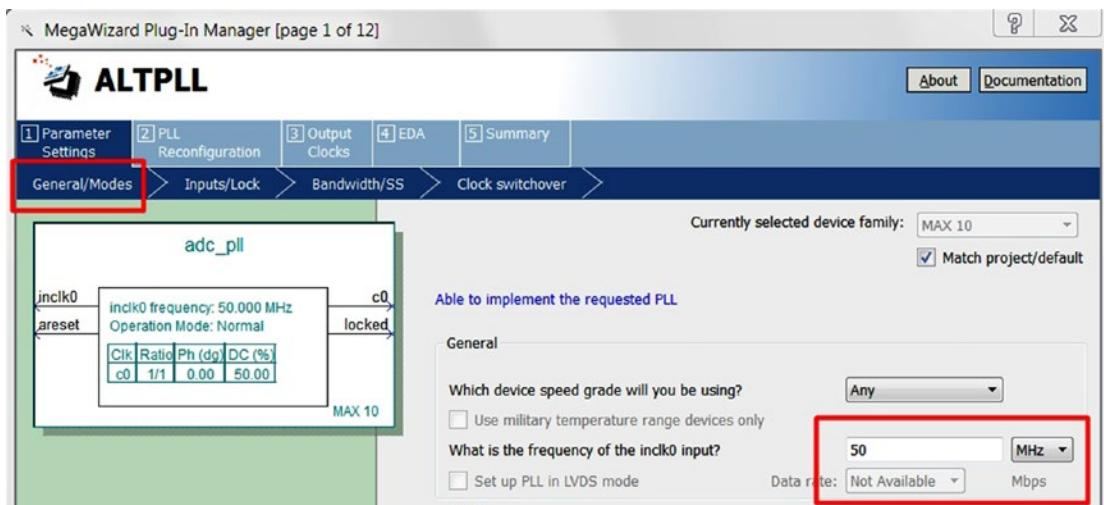
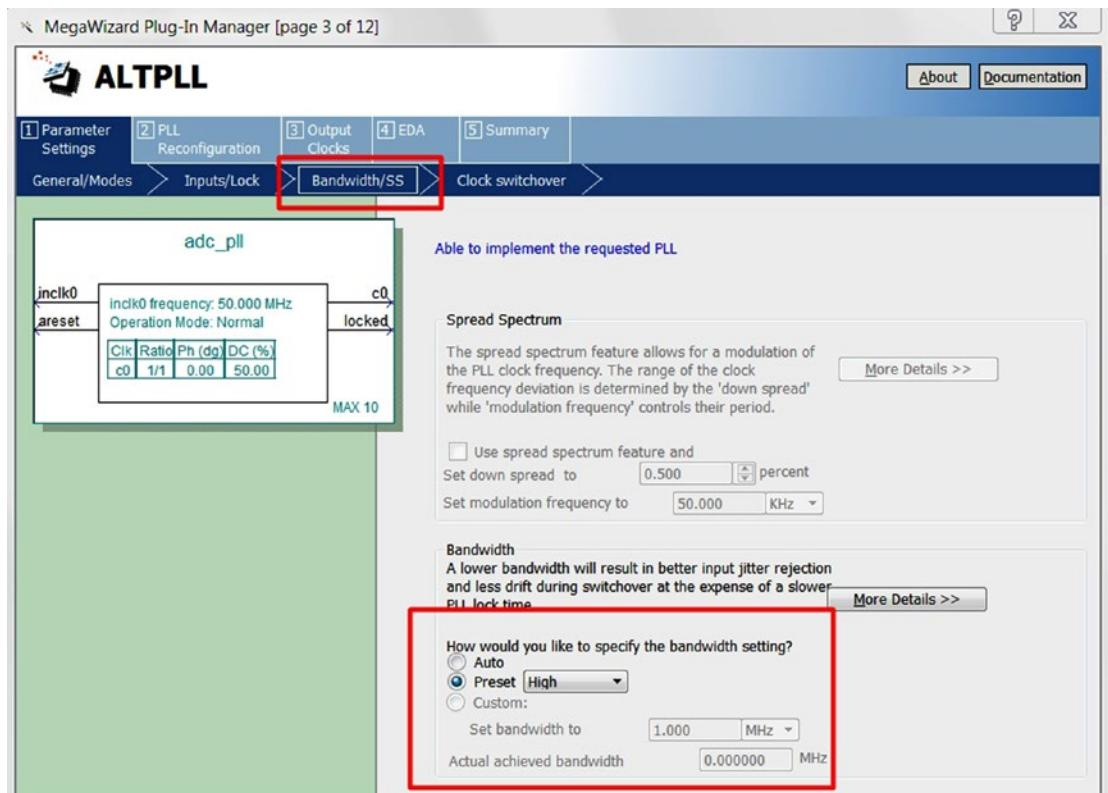

Figure 12-18. MegaWizard Plug-In Manager for ADC IP—I
Figure 12-19. MegaWizard Plug-In Manager for ADC IP—2
Step 3: A MegaWizard Plug-In Manager window will appear as in Figure 12-18. Under the **1: Parameter Settings** tab, on the **General/Modes** tab, change the inclk0 input to **50 MHz** which is the on board clock frequency. On the **Bandwidth/SS** tab in Figure 12-19, change the Bandwidth Setting to **Preset High**.